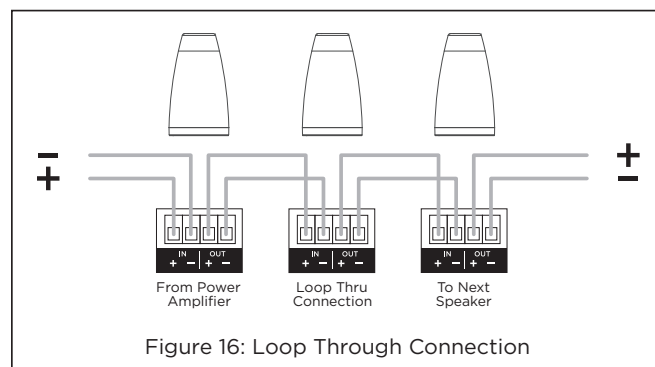

Figure 16: Loop Through Connection
14. When using multiple speakers you can connect the speakers either in parallel or in the loop through method (see Figure 16 and 17).